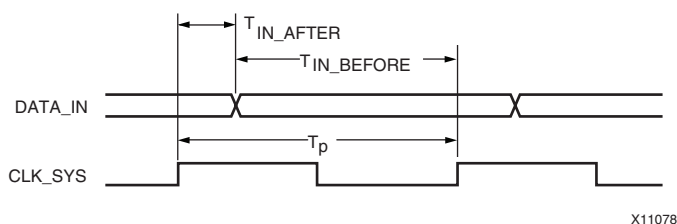

Figure 3-18: Timing Reference Diagram of OFFSET IN Constraint
- Figure 3-18, “Timing Reference Diagram of OFFSET IN Constraint”